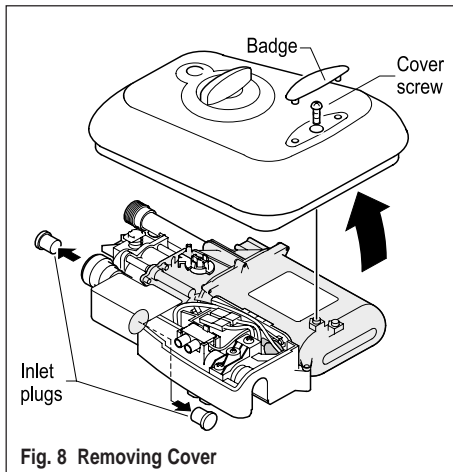

Fig. 8 Removing Cover
5.1.1 Remove cover retaining screw and carefully remove cover by pulling up the top edge. Avoid twisting, see fig. 8.
5.3.9 Check that the water inlet plug is correctly fitted and pushed fully home, into the inlet not being used - see fig. 8.
5.5.1 An inlet plug should be removed from the chosen inlet port - see fig. 8.